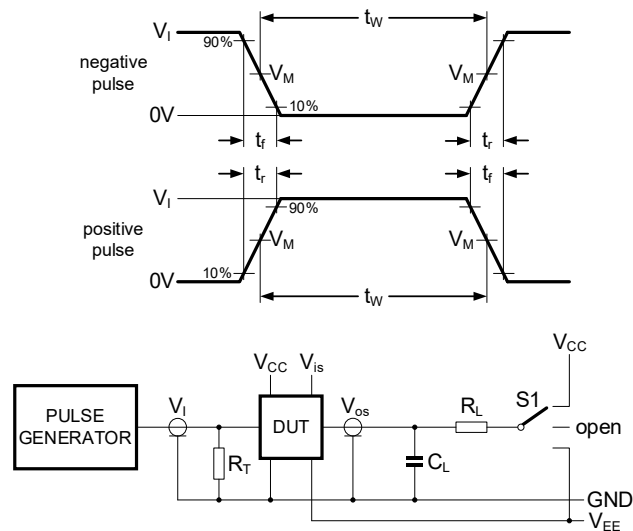

Figure 8-11 Test circuit for measuring switching times
- (1) t_{pd} is the same as t_{PHL} and t_{PLH} .
- (2) t_{on} is the same as t_{PZH} and t_{PZL} .
- (3) t_{off} is the same as t_{PHZ} and t_{PLZ} .
- (4) For test circuit see Figure 8-11.
- (5) V_{is} is the input voltage at a nYn or nZ terminal, whichever is assigned as an input.
- (6) V_{os} is the output voltage at a nYn or nZ terminal, whichever is assigned as an output.